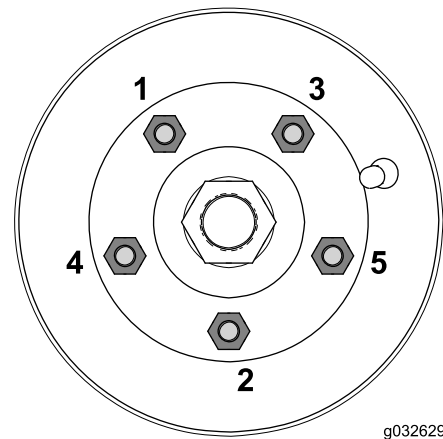

Figure 84
3. Torque the lug nuts to the 88 to 115 N·m (65 to 85 ft-lb) in the following order (Figure 84).